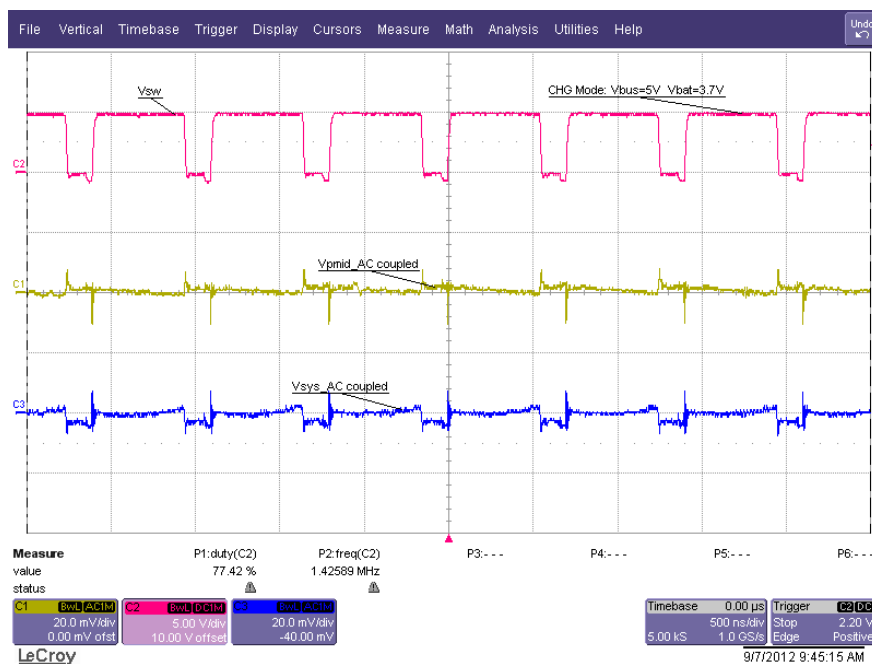

Figure 5. CHG mode ripple and duty cycle; VBUS = 5V and VBAT = 3.7V.
- 6.2.6 Verify Scope Measurements (See Figure 5 – 500ns/div):
Connect Channel 1, 2, 3 as listed below and verify waveforms as shown in Figure 5.